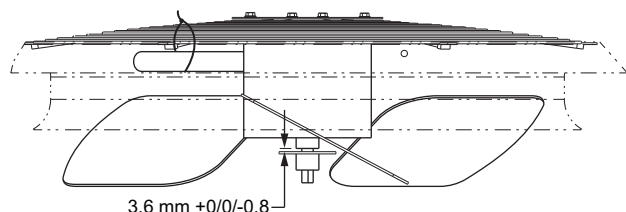

Fig. 28 — Outdoor Fan Blade Position
4. Adjust fan height as shown in Fig. 28.